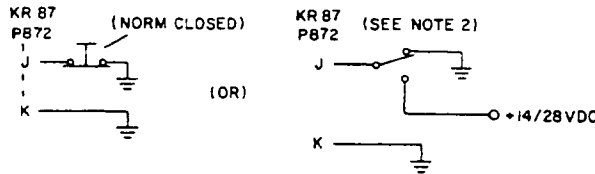

FIGURE 2-4 EXTERNAL STOP AND HOLD WIRING USING NORMALLY CLOSED SWITCH
- (2) An open on pin J will "stop and hold" the flight timer. Closing the switch again will cause the timer to continue until the switch is opened again. This can be wired in a number of ways, examples of which are shown in **Figure 2-4** below.